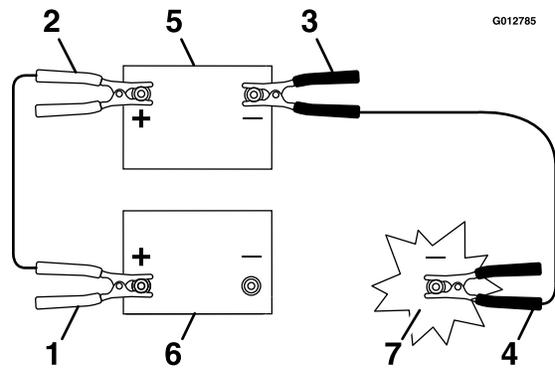

Figure 49
3. Connect the positive (+) cable to the positive (+) terminal of the discharged battery that is wired to the starter or solenoid as shown in Figure 49.